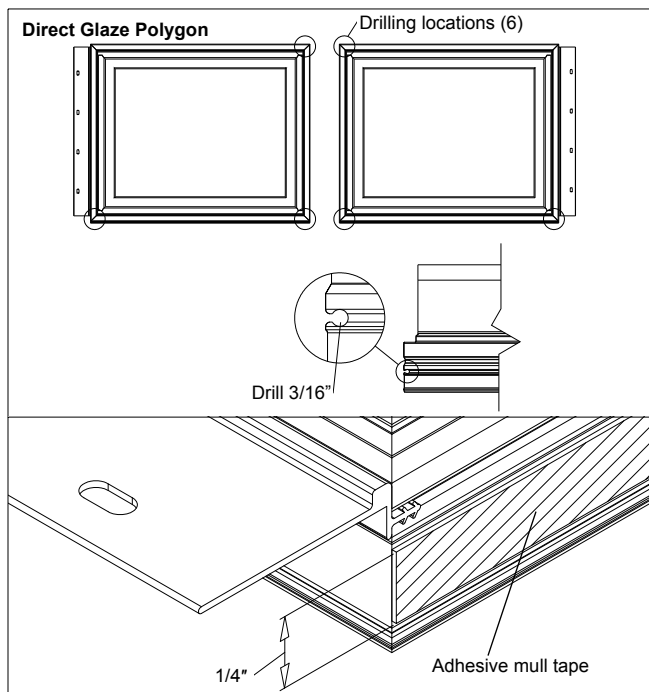

Figure 19
1. Lay the two direct glaze polygon, in sash transom, or awnings that will be mullled above the two casement units in the desired mulling configuration (interior facing up). Remove nailing fin from sill and side jambs that will be mullled together. If mulling direct glaze polygons above casement units drill out the outer edges of the sill nailing fin/drip cap kerfs on each corner and head jamb at mullion with a 3/16" drill bit. Clean filings out of kerf. This will ensure easy installation of the mulling pin. Apply mull sealing tape the full length of the jamb ensuring that it is located 1/4" (6) from the exterior edge of the Ultrex frame as shown in figure 19.